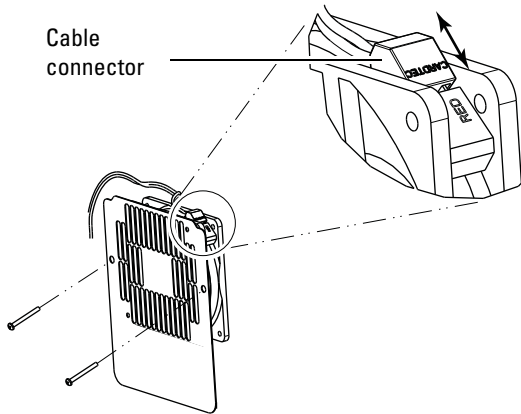

Figure 12: Remove fan mounting screws and disconnect cable (view from inside refrigerator)
17. From the front interior of the refrigerator, remove the two Phillips screws holding the fan in place and disconnect the fan's power cable (Figure 12).